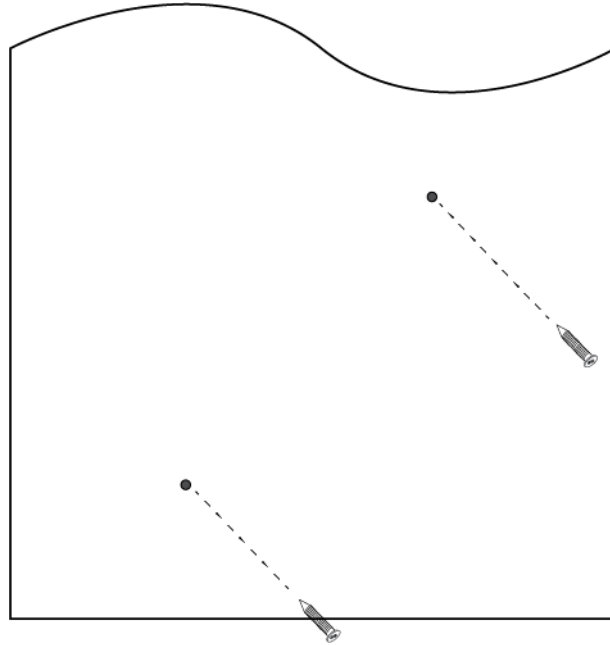

Figure 12. Installing Two Screws
5. Install two M4 screws and anchors (if required). Leave the screws loose enough so that the bracket can slide under the screw heads. Refer to Figure 12 on page 43.